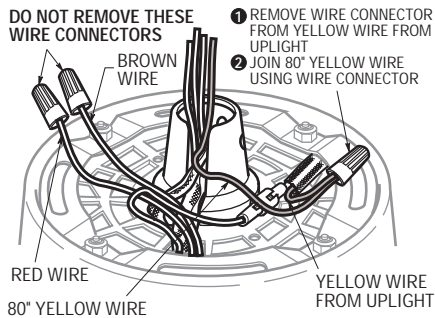

Figure 7
**13. For Ceiling Fan Models F2100, F2200, CF2300, CF2500 and CF3900 Only.** Locate and remove the connector from the yellow wire from the uplight (Figure 7). Separate, untwist and unkink the 80" yellow wire lead (supplied with the fan) and cut off the connector from the end of the wire. Strip 1/2-inch of insulation from the end of this wire. Then join the 80" yellow wire to the yellow wire from the uplight using a wire connector (supplied).